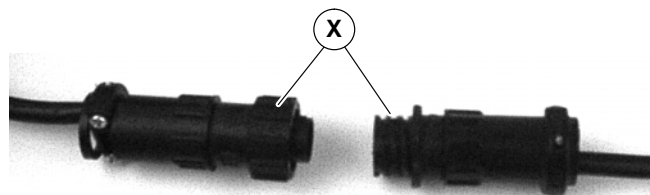

Figure 15
2. For DC variable speed motor, unplug cord at disconnect (X of Figure 15):